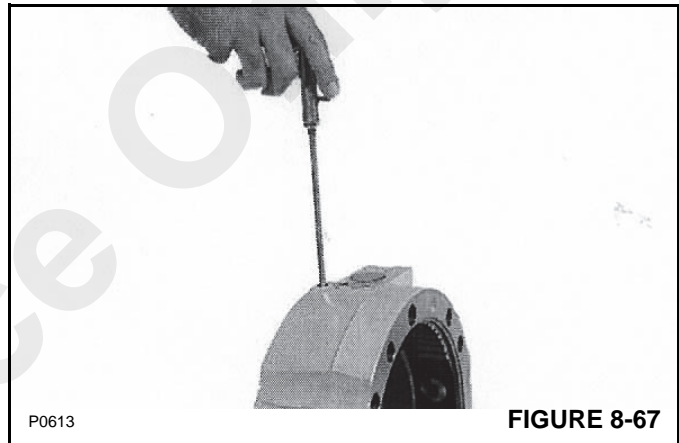

FIGURE 8-67
10. Remove the brake flange bleed screw (Figure 8-67). Remove the piston out from the front of the brake flange.